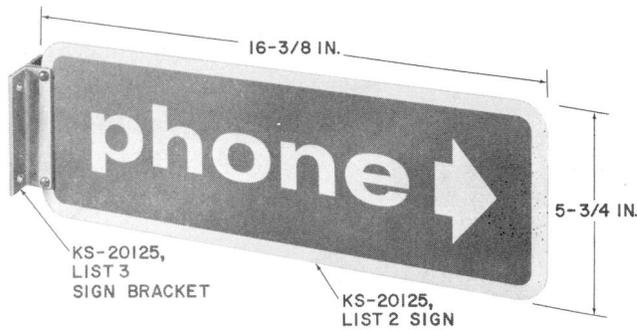

Fig. 14—KS-20125, List 2 Sign and KS-20125, List 3 Sign Bracket
- (b) KS-20125, List 2 sign (Fig. 14)
- (c) KS-20125, List 3 mounting bracket (Fig. 14)
3.15 Use KS-20125, List 3 mounting bracket (must be ordered separately) when installing perpendicular to a wall (Fig. 14).